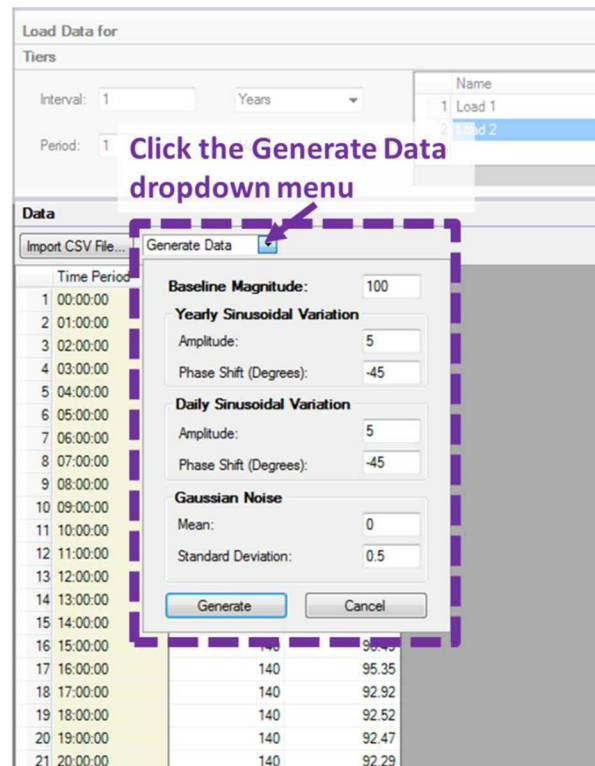

Figure 32. Automated generation of data for a load.
- Generate Data – To have the tool generate data, click on the data column for the appropriate load name. Click on the Generate Data dropdown menu (Figure 32). Enter parameters for the load data characteristics. Baseline Magnitude – The nominal magnitude of the load being defined. It is about this value that the sinusoidal and noise variations will be generated.